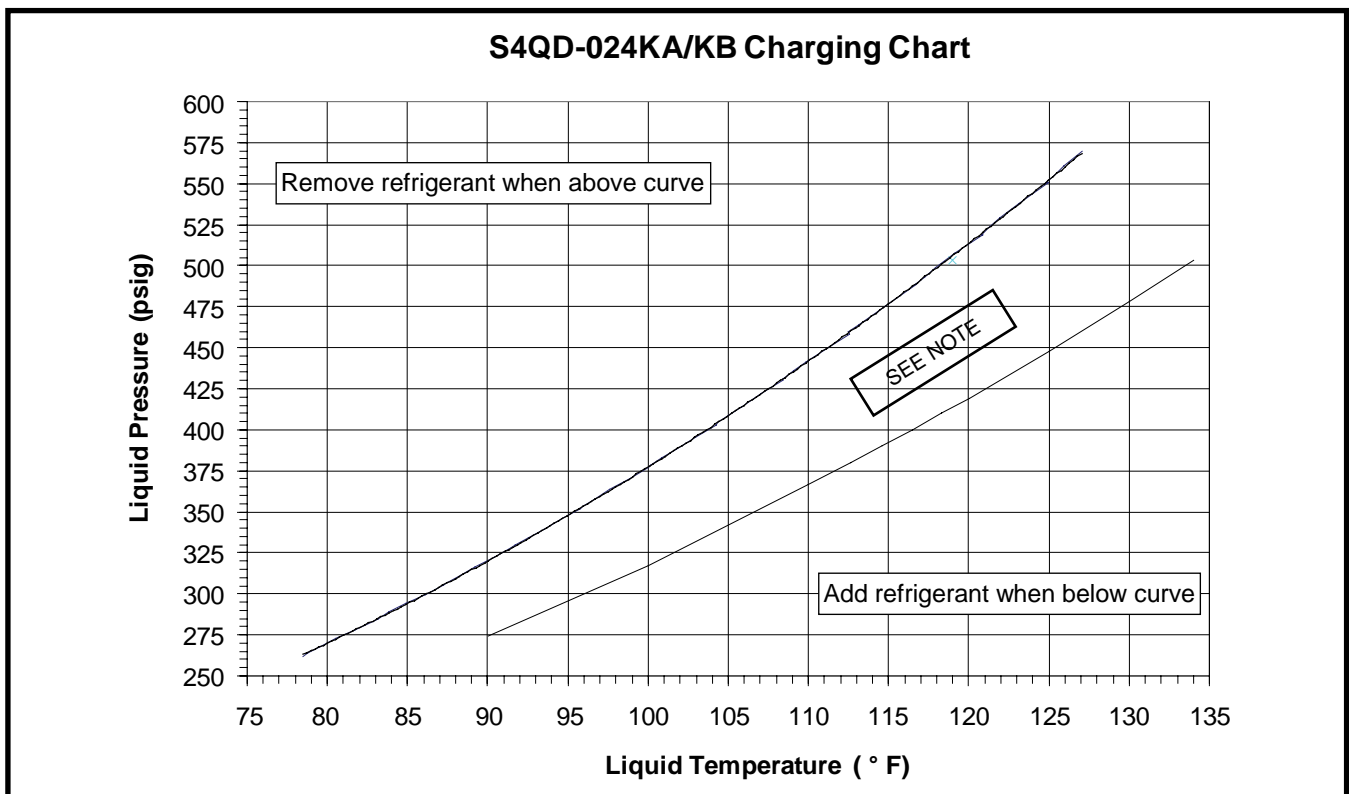

Figure 2. Charging Chart for 2 Ton Units
- The refrigerant charging charts and tables are valid for a variety of indoor, return air conditions and are most influenced by the outdoor ambient temperature, outdoor fan operation and the unit operating voltage. Before using these tables and charts, make sure the unit is in a stable operating mode. As shown in Tables 4 - 6 (page 9) and Figures 2 - 7 (pages 10 - 12), the ideal system sub-cooling can vary over the range of operation. Reference the tables to determine the ideal amount of sub-cooling for a given liquid pressure. Units charged to other values will not perform at the rated unit efficiency (EER) or rated Coefficient of Performance (COP) in heating mode.